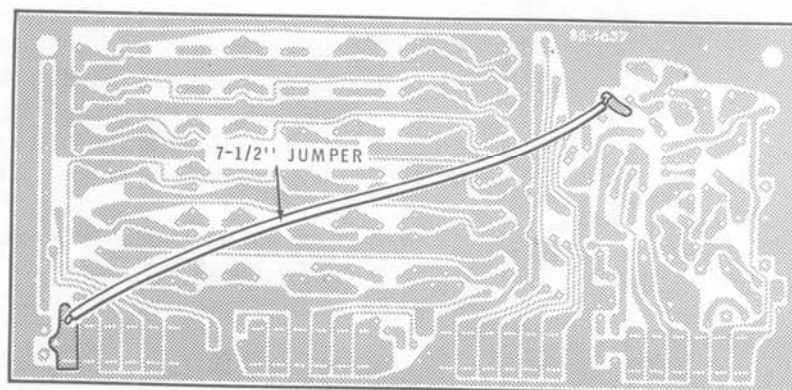

Figure 1-7B
- () Prepare a 7-1/2" length of orange wire. Then connect the wire between the two foils indicated on the foil side of circuit board G. See Figure 1-7B.